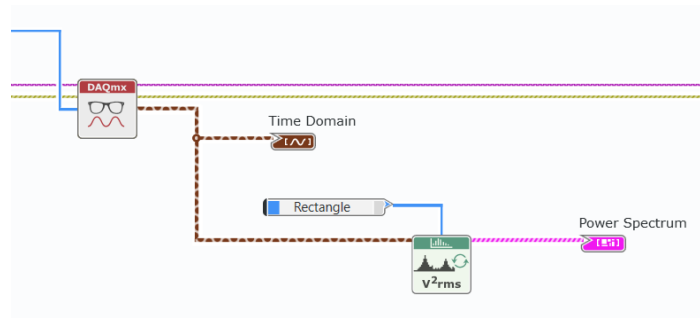

Figure 7-34 The power spectrum will be calculated each time the loop in the code runs.
4. Wire the inputs to the VI as seen in Figure 7-34.